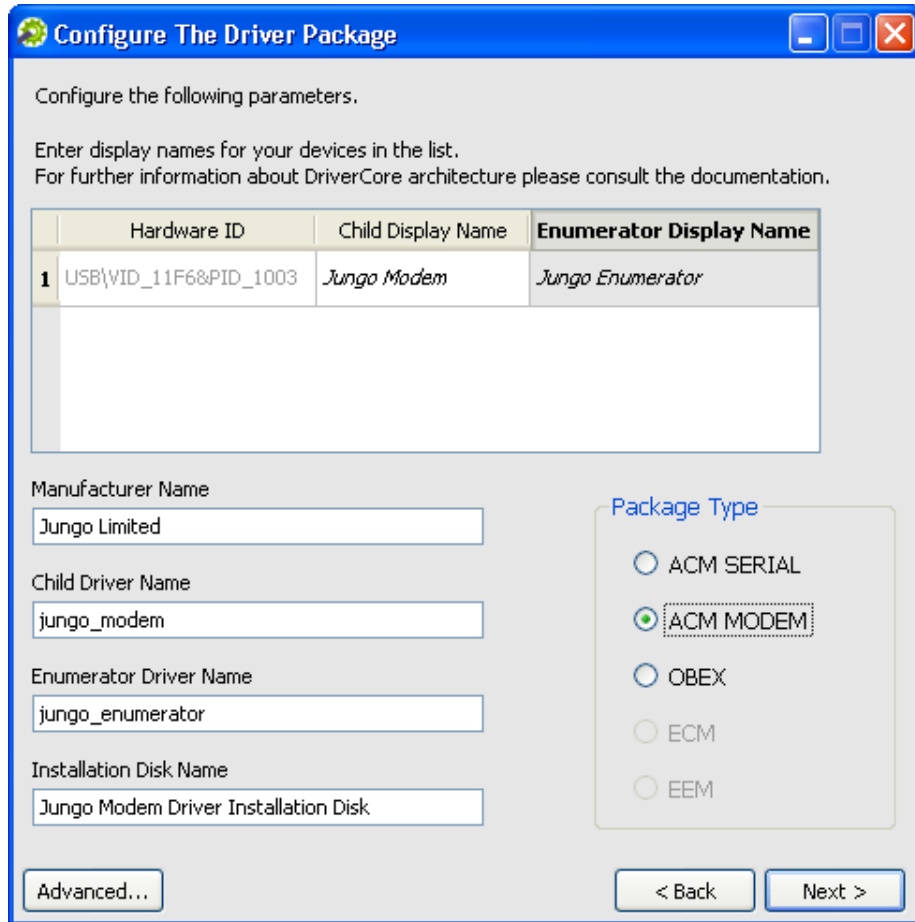

Figure 3.2: DriverCore Wizard – Configure the Driver Package
4. Click **Next >** to display the driver package configuration window (see Figure 3.2 below).